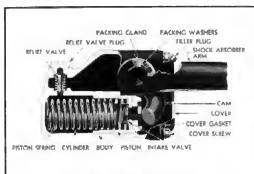

Fig. 4—Single-Acting Shock Absorber
3. Remove the screws which mount the regulator board, and tip the regulator board away from the door. This disengages the regulator from the cam channel, as shown in Fig. 4.
The construction of the single acting shock absorber is shown in the cross section view, Fig. 4.
The type of single acting shock absorber shown in Fig. 4, with a separately mounted intake valve and relief valve, is used on the front and rear of